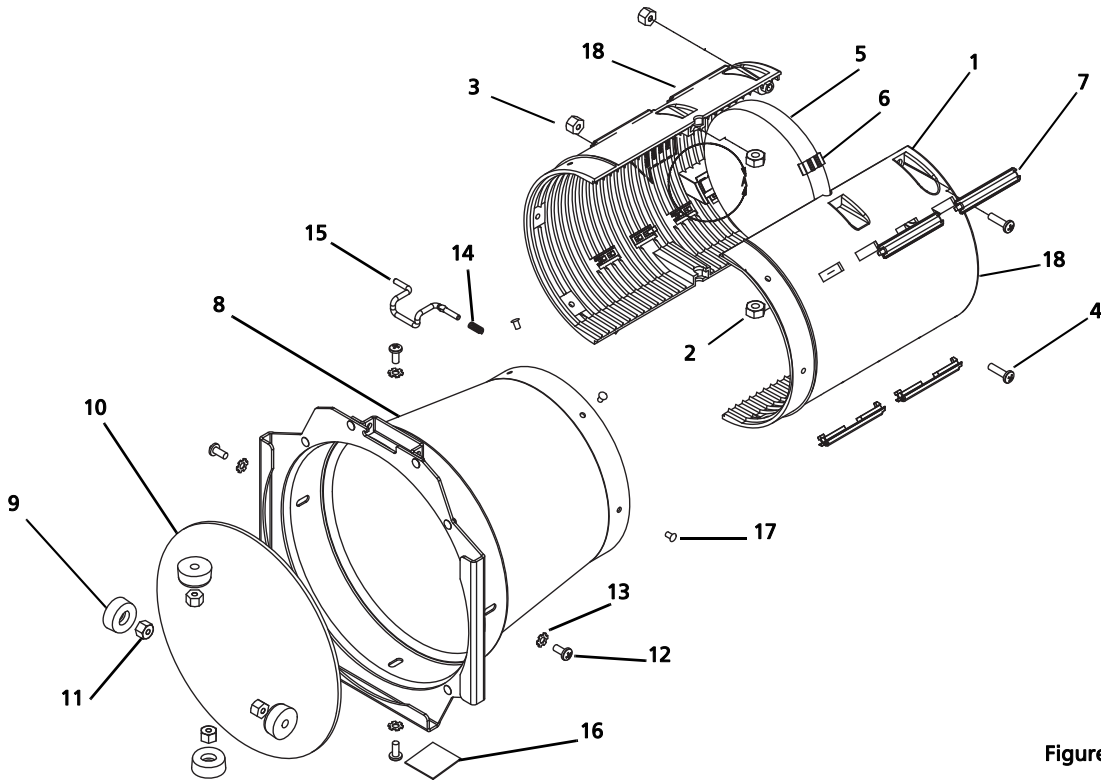

Figure 21
- 2: Install the eight bushing guides (7). Point the narrow tab on the bottom toward the back of housing; point the square tab toward the front. Squeeze the guides slightly so that they end in the middle, and then snap them into place. Make sure that the rounded side of the guide faces outward from the tube.
- 3: Install the front lens (10) in the tube using required bumpers (9), screws (12), nuts (11), and washers (13) as shown in Figure 21. The colored dot on the lens should face towards the front.
- 2: If necessary, remove the front lens to access the front surface of the rear lens for cleaning. Remove the four screws (12), nuts (11), washers (13), and bumpers (9), and gently lift out the front lens as shown in Figure 21. Reassemble in reverse order.